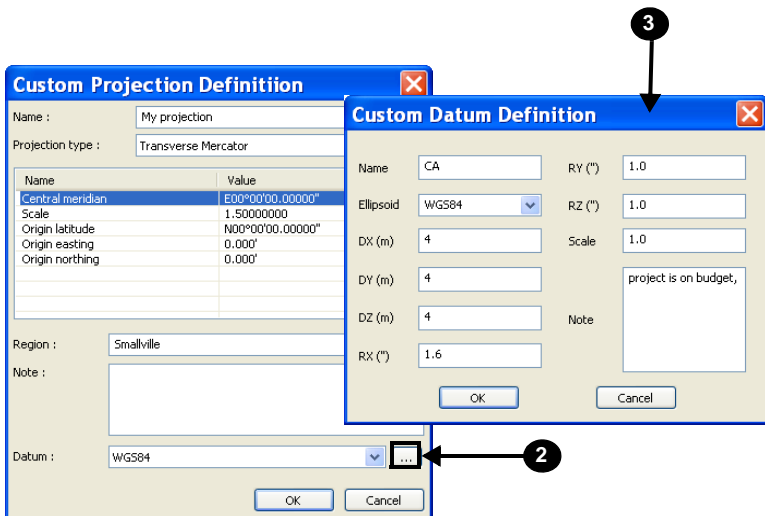

Figure 2-38. Create Custom Project/Datum
2. Click the **Browse** button  (Figure 2-38 on page 2-35) to select a name for the datum. The *Custom Datum Definition* dialog box displays.
3. Enter the following information on the *Custom Datum Definition* dialog box (Figure 2-38 on page 2-35):
Custom datums will be available in the Datum list on the **Custom Projection Definition** dialog box (Figure 2-38).